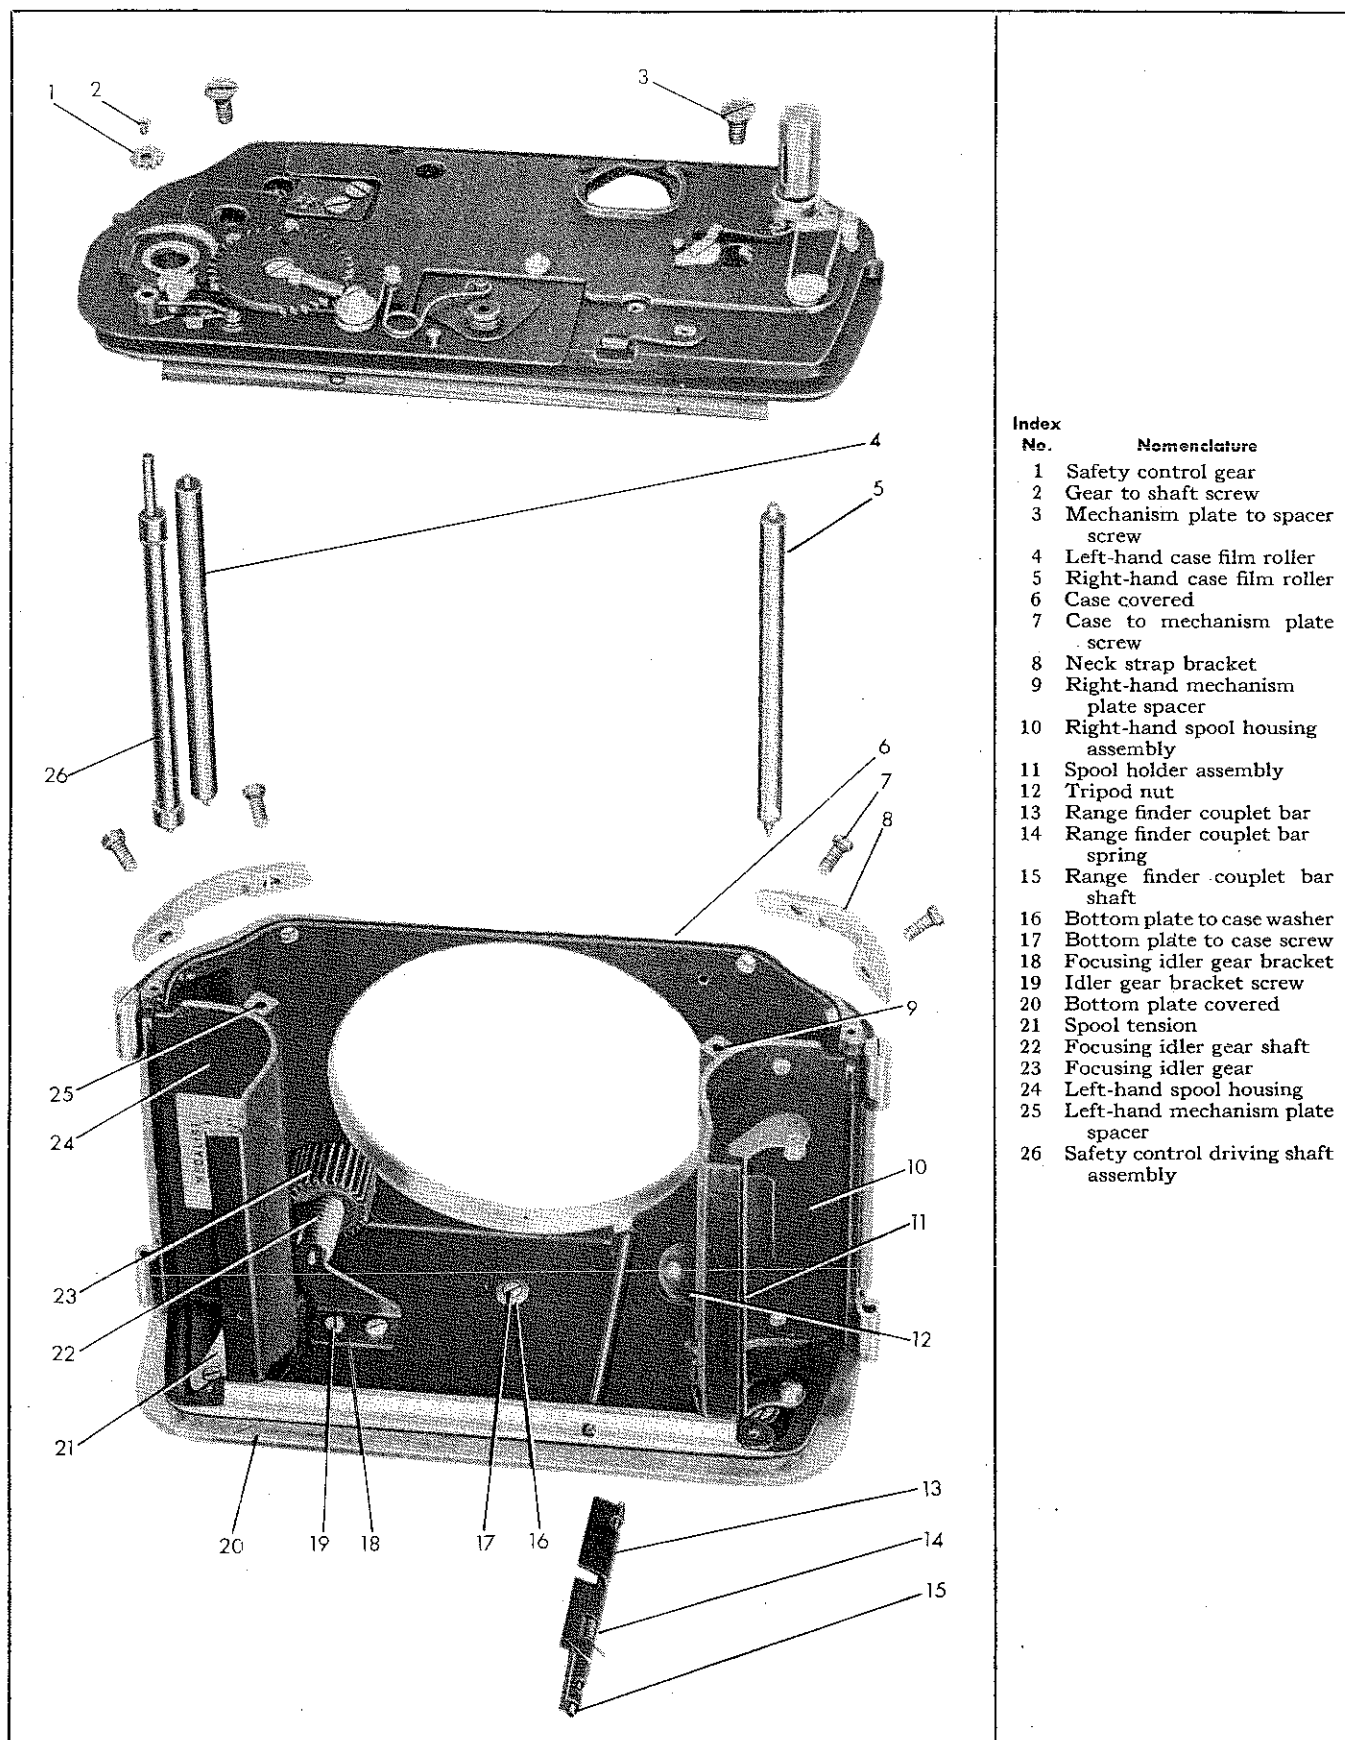

Figure 31—Mechanism Plate, Exploded from Camera Case
1. MECHANISM PLATE. (See figure 31.)
m. SPOOL HOUSING, FOCUSING GEARS, AND SPACERS. (See figure 31.)
(1) The left-hand spool housing (24) and the right-hand spool housing (10) are sealed to the bottom of the case covered (6) with heavy black lacquer in the same manner that the mechanism plate was sealed to the top front of the case. Break the seal by working the spool housing back and forth slightly with the fingers, and then lift off the spool housings.
(2) Remove the two idler gear bracket screws (19), and lift off the focusing idler gear bracket (18) together with the focusing idler gear shaft (22) and the focusing idler gear (23).
(3) Remove the three bottom plate to case screws (17), lift off the two bottom plate to case washers (16) in the center and at the right, and the spool tension (21) at the left. The bottom plate covered (20) is now free from the case.
(4) Remove the two case to spacer screws, and lift off the left-hand mechanism plate spacer (25) and the right-hand mechanism plate spacer (9). When the left-hand mechanism plate spacer is removed, the focusing pinion will be free, and it can be lifted out.